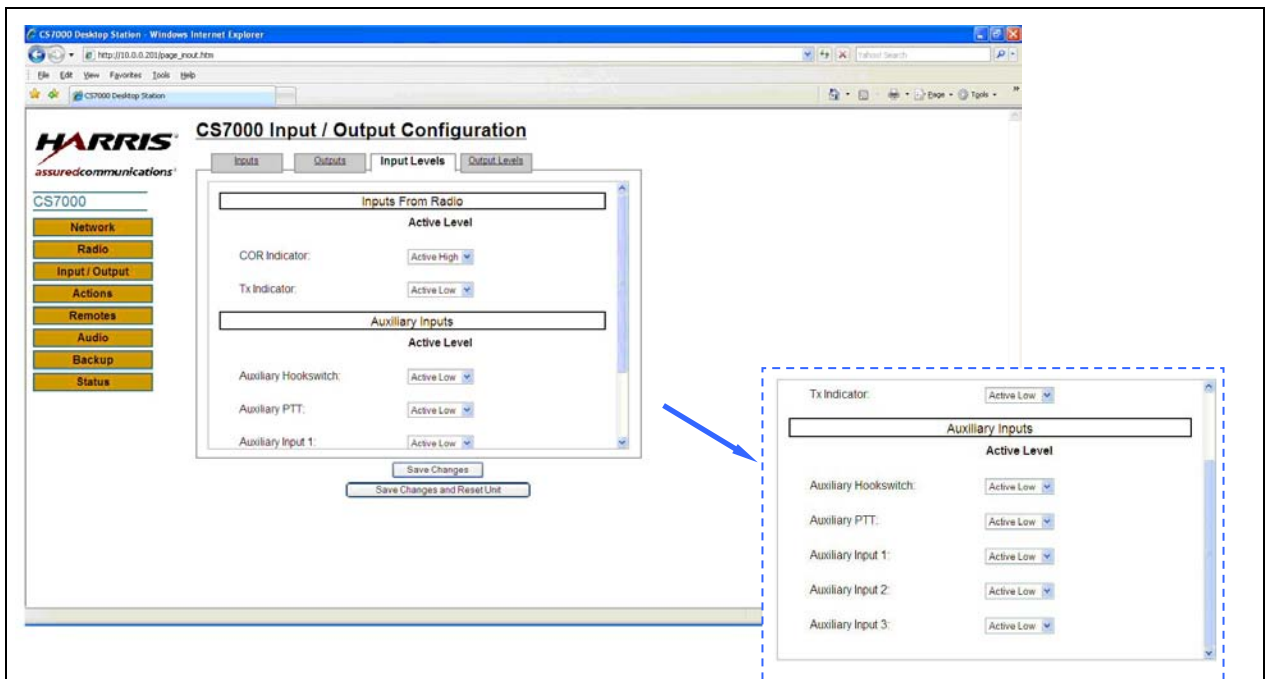

Figure 8-16: CS7000 Input/Output Configuration Web Page—Inputs Levels Tab (Example)
3. Configure the polarity for the COR Indicator input on the Input Levels tab. See Figure 8-16.
The CS7000 Input/Output Configuration web page’s Inputs Levels tab is shown in Figure 8-16.